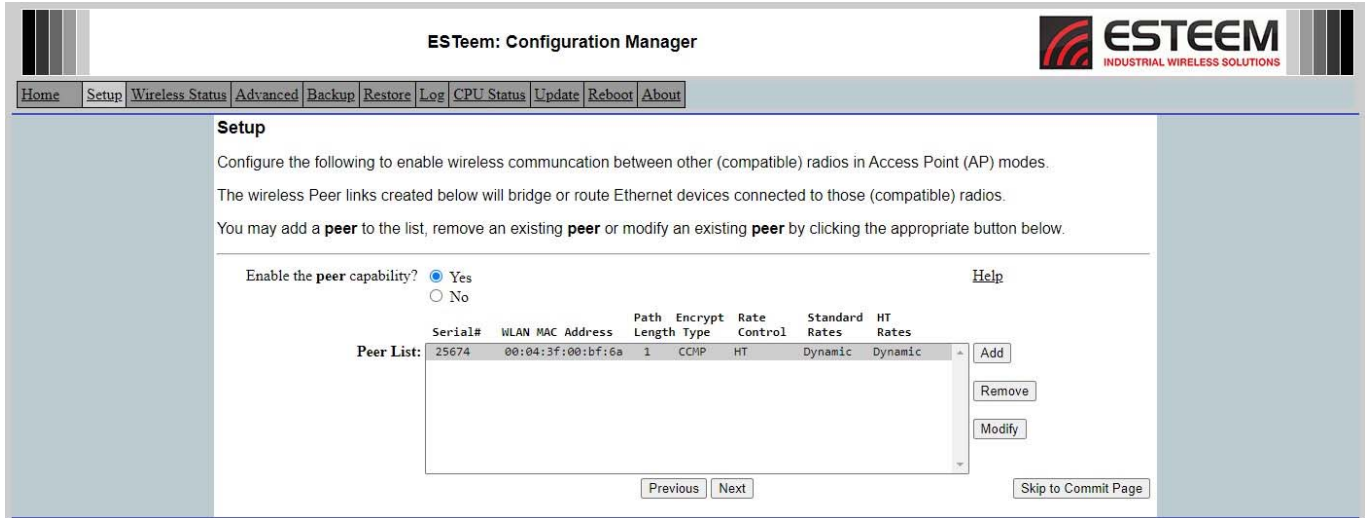

Figure 22: Completed Peer Entry
14. The main Peer Configuration screen will again be displayed but will now contain an entry Horizon radio peer created in step 13 (Figure 22). If more than one peer is required, press the “Add” button and complete the entry for each peer connection. Only radios directly connected (not mobile devices or other radios through repeater sites) to the Horizon will need to be entered in the peer list. Press the “Next” button to proceed.